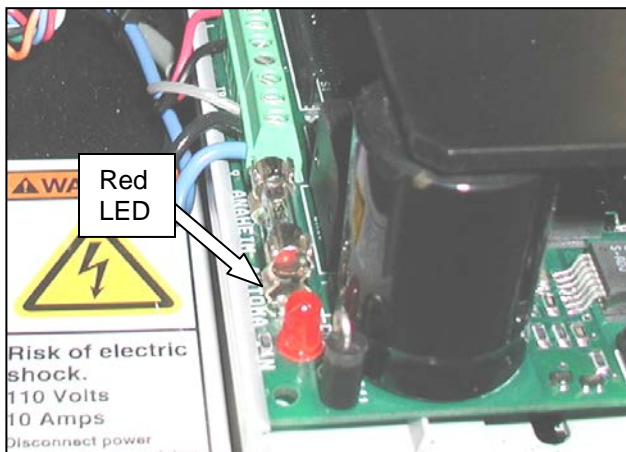

Figure 3-4. Status LED Location
9. Locate Red LED on the defective drive (Figure 3-4).